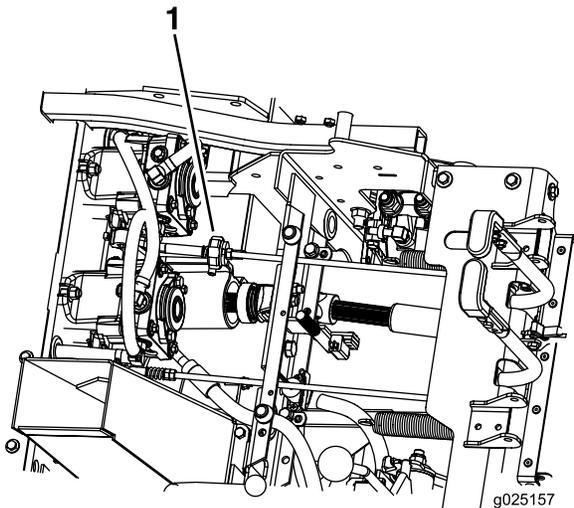

Figure 50
6. Check and ensure the machine does not creep when it is in neutral with the parking brake disengaged (Figure 50).